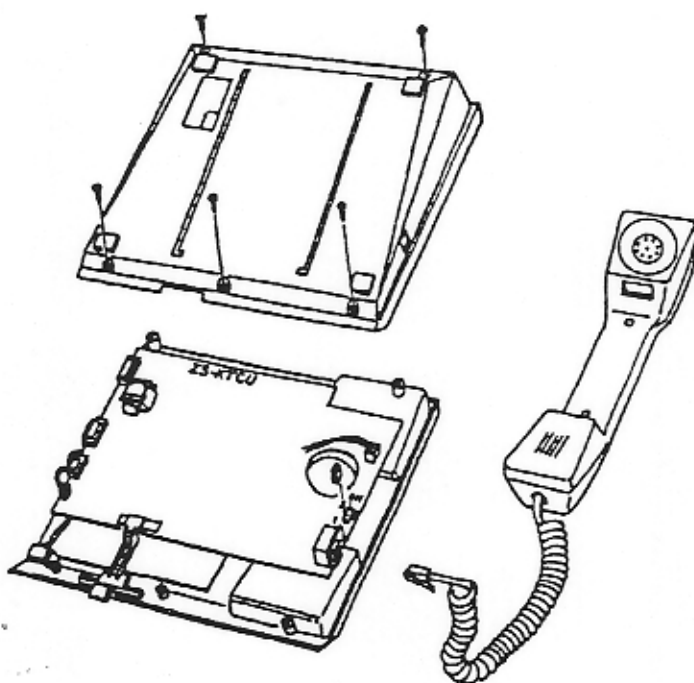

FIGURE 3-32 IX-SNHD INSTALLATION
2. Plug in the cord into the IX-SNHD referring to Figure 3-32.